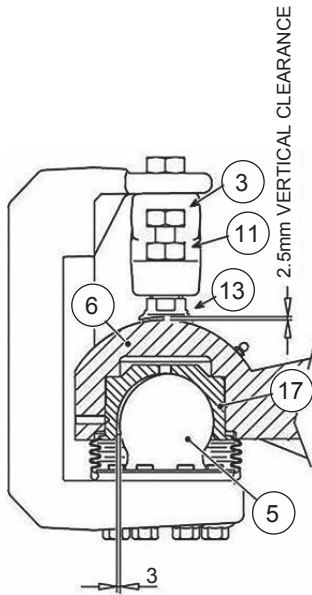

Figure 21
Adjust the adjustment screw (3) until a 0.3 - 0.5 mm vertical clearance between the guard disk (13) and the ball cup (6) is reached. Lock setting with counter nut (11). (Figure 21)
Protect the part that is still visible of the coupling ball (5) with the rubber dust proof bellows protection cover (7). Accurately anchor the edge directly onto the ball itself. (Figure 21, 22)